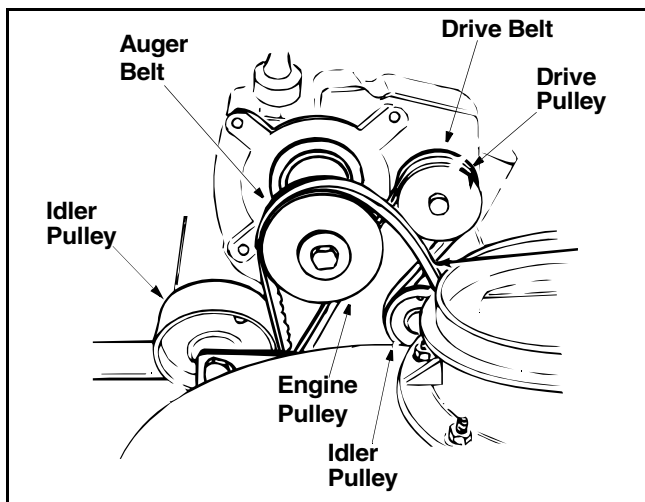

Figure 26
- Roll the front and rear auger belts off the engine pulley. See Figure 26.
- Lift the rear auger belt from the auger pulley, and slip belt between the support bracket and the auger pulley. Repeat this step to remove the front auger belt. See Figure 26.
- Pull idler pulley up, and lift belt off engine pulley and friction wheel disc. See Figure 26.